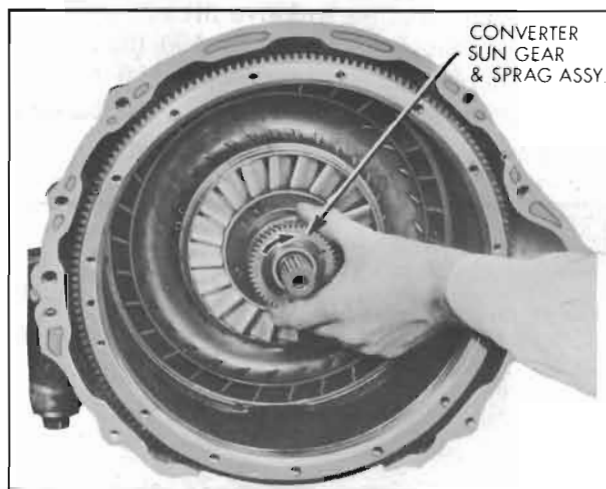

Figure 5-59—Checking Sun Gear Sprag Operation
7. Check operation of sun gear sprag clutch by sliding sun gear assembly on reaction shaft with gear end toward front of transmission. When viewed from front of transmission sun gear must rotate freely clockwise and lock in a counterclockwise direction. See Figure 5-59.